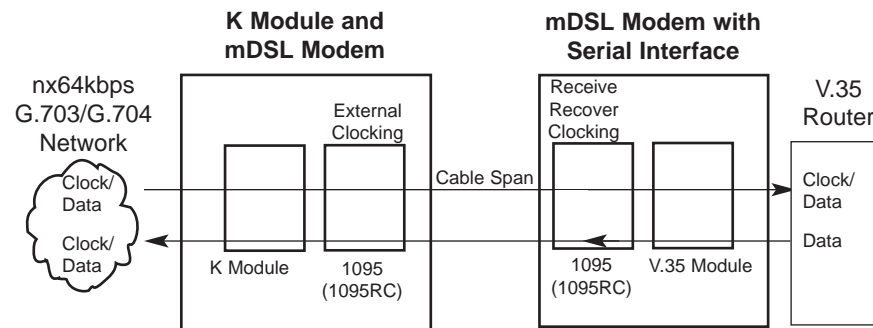

Figure 1. Clocking Settings in a Network Termination Application
**Network Termination** mode is used to connect a local site modem employing a K Module to a remote site modem employing a V.35, X.21, RS-530 Ethernet *QuikConnect* Module (refer to Figure 1, below). Transmitter clocking is derived from the G.703/G.704 network and carried through the system to all system devices.